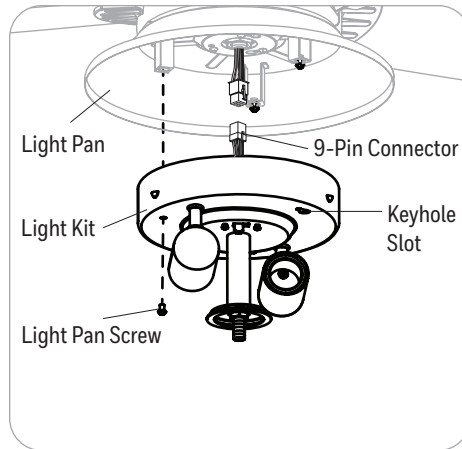

Figure 5.8
8. Remove one of the three light pan screws from the light pan and loosen the other two but do not remove. Connect the 9-pin connector from the light pan to the 9-pin connector from the light kit. Lift the two keyhole slots in the light kit over the two loosened light pan screws and turn in a clockwise direction. Then, use the previously removed light pan screw to secure the light kit to the light pan. Tighten all screws (Figure 5.8).